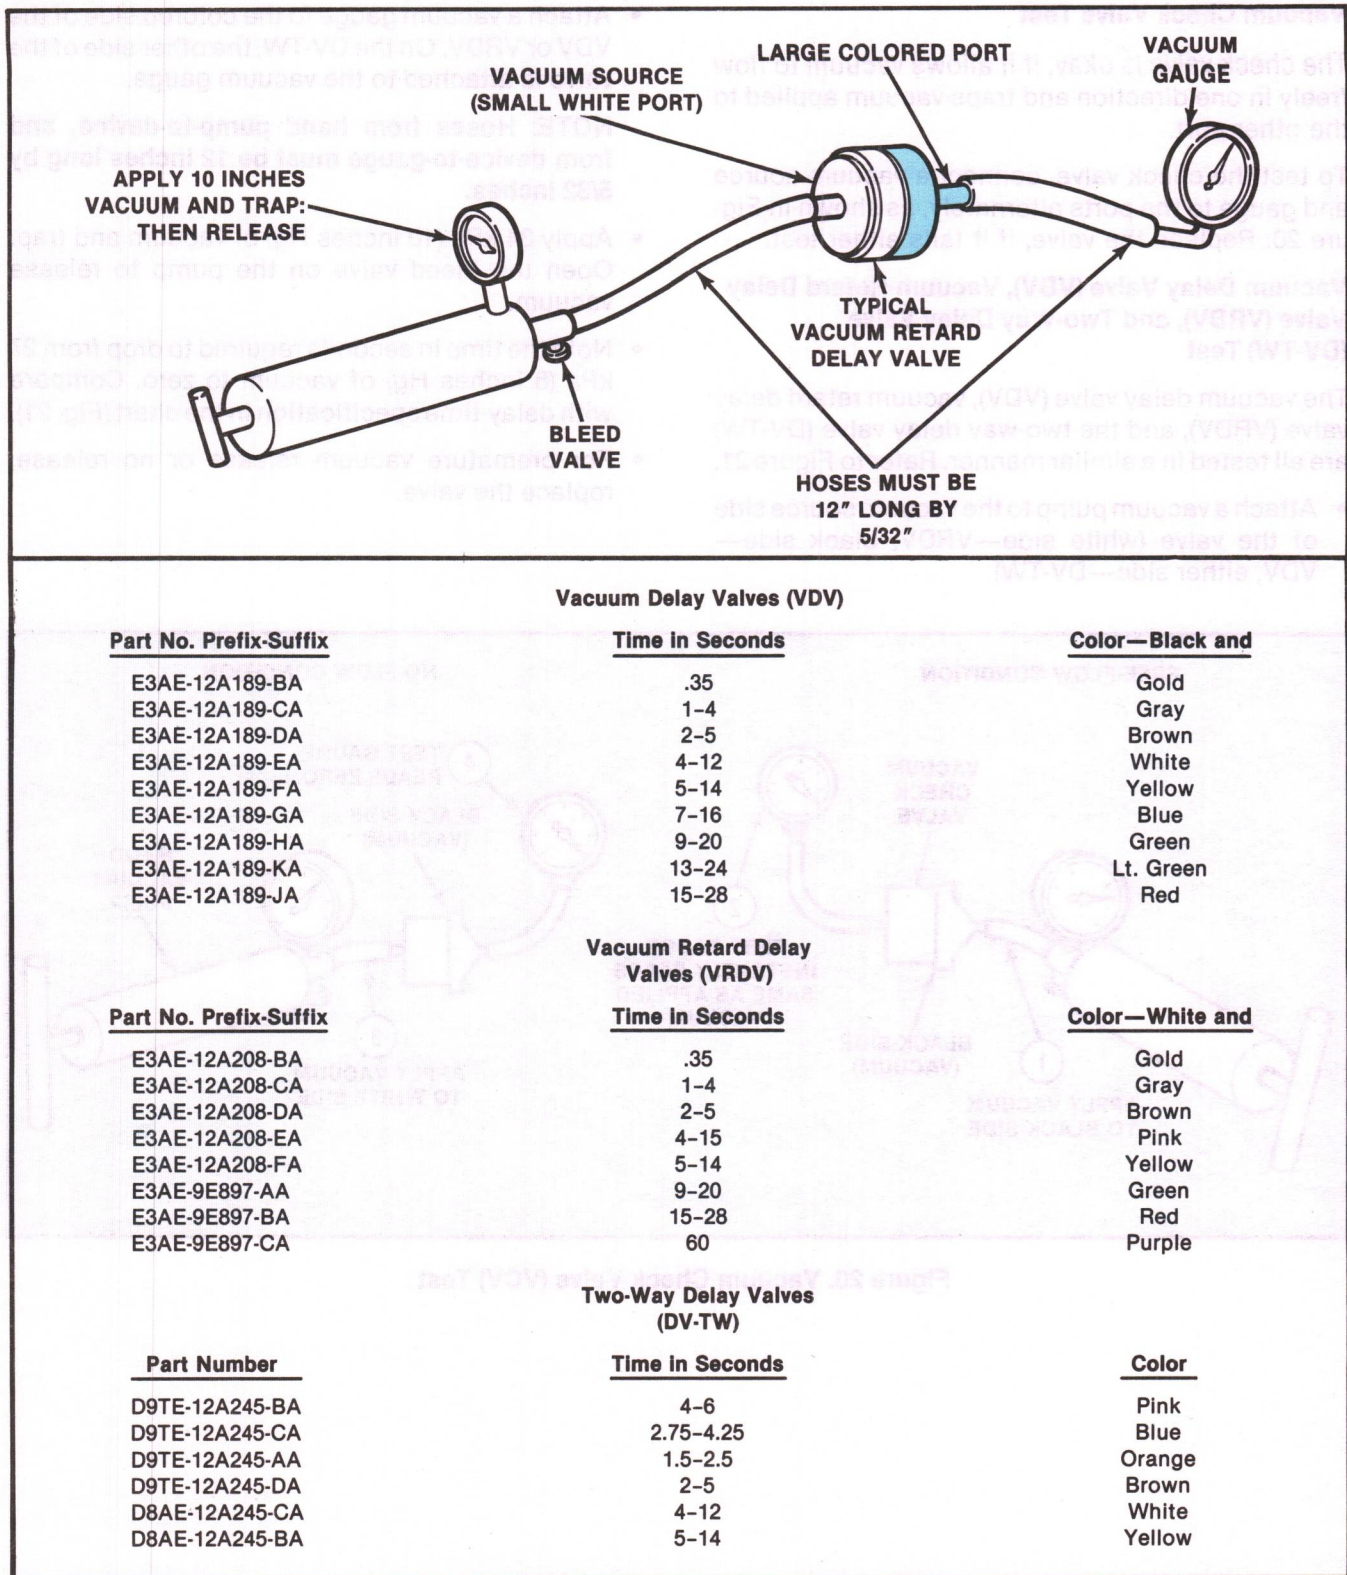

Figure 21. VDV, VRDV, DV-TW Test
The vacuum delay valve (VDV), vacuum retard delay valve (VRDV), and the two-way delay valve (DV-TW) are all tested in a similar manner. Refer to Figure 21.
- Note the time in seconds required to drop from 27 kPa (8 inches Hg) of vacuum to zero. Compare with delay-time specification in the chart (Fig. 21).